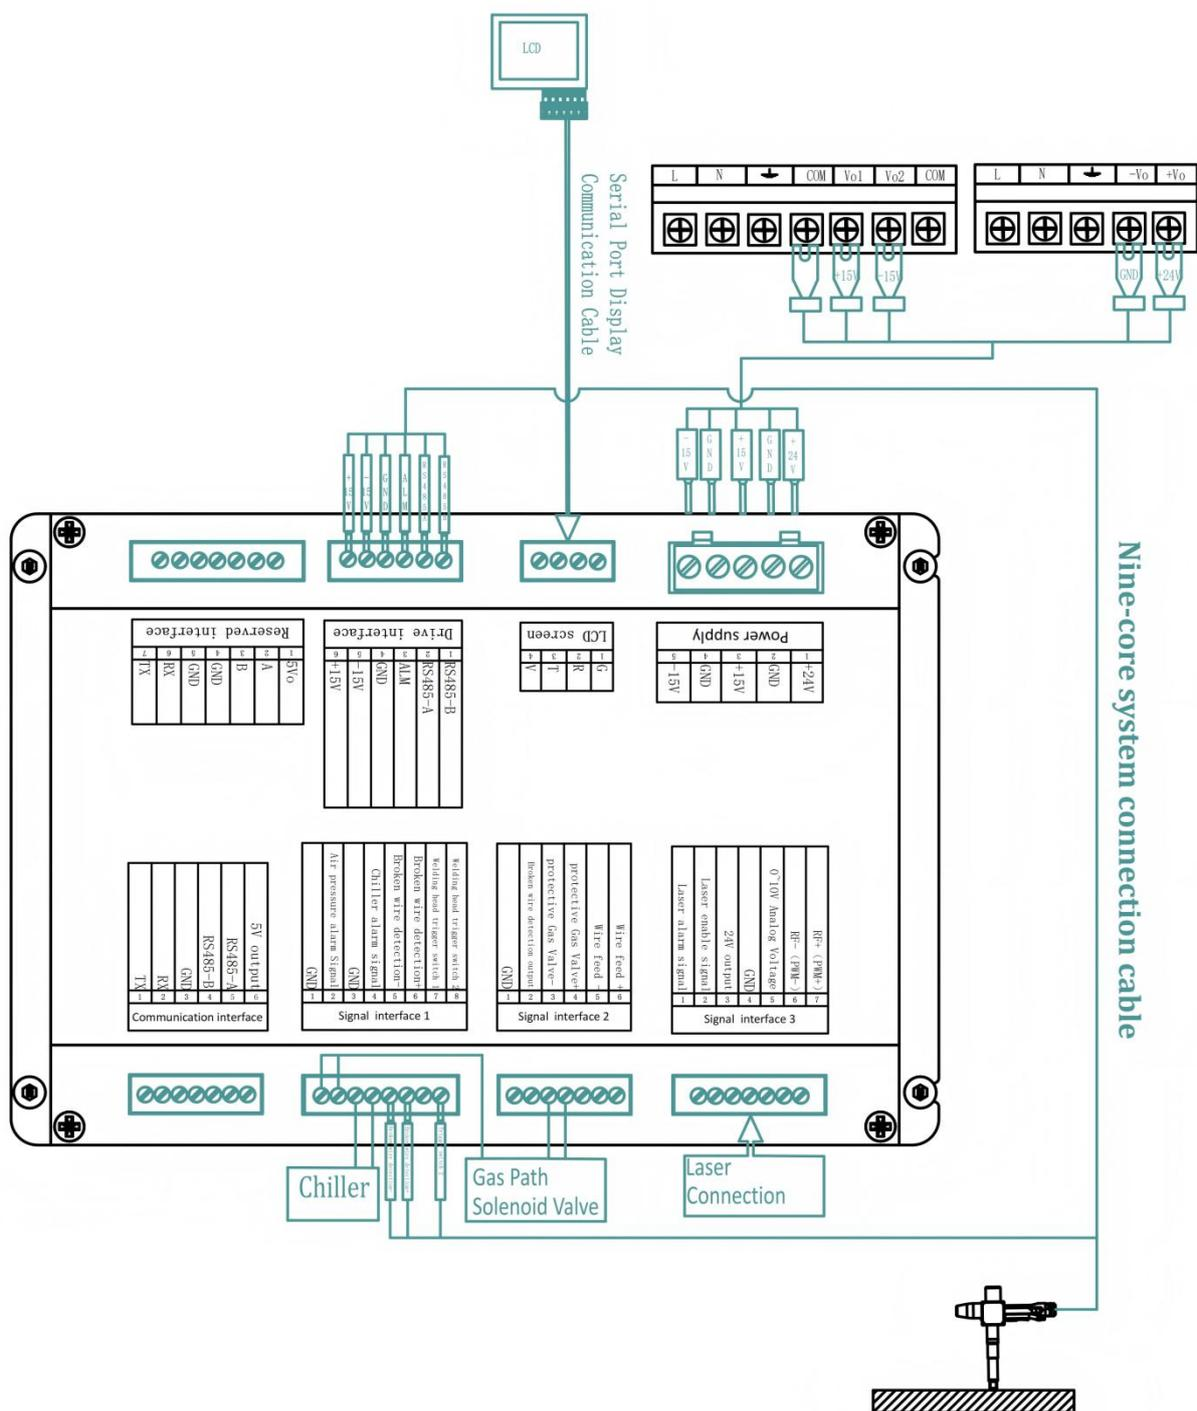

Figure 3.5 Wiring Diagram
- ① In order to avoid abnormal power consumption of the product, the ground wire of the switching power supply must be effectively grounded! The product shell must be grounded!
- ② The icons used in Figure 3.5 only refer to a certain product, not the corresponding product.